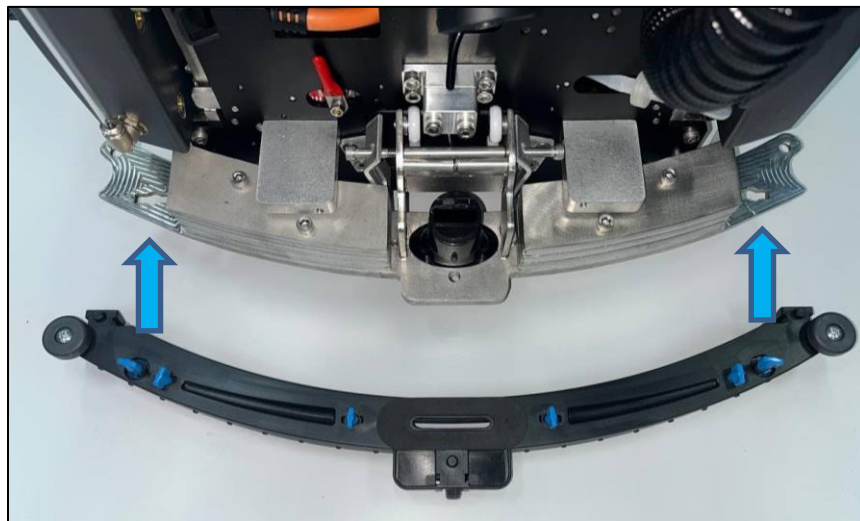

Fig. 10
1. Align the two outer fasteners on the cartridge with the holes on the Squeegee mount (Fig. 10).